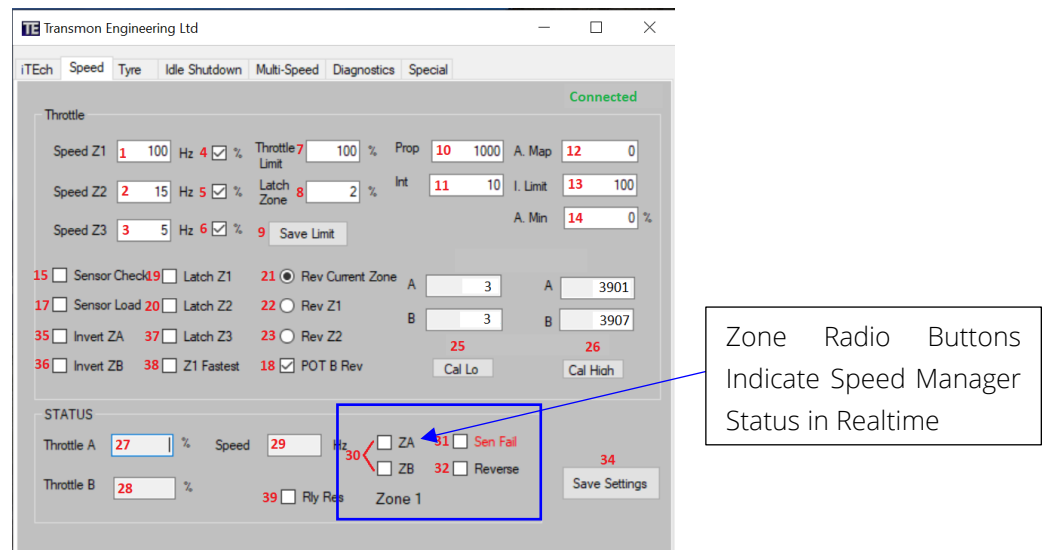

Figure 14: Speed Manager Interface Realtime Zone Status Indication
- Use Speed Manager Interface application to monitor Speed Zone status (see **Figure 14**)